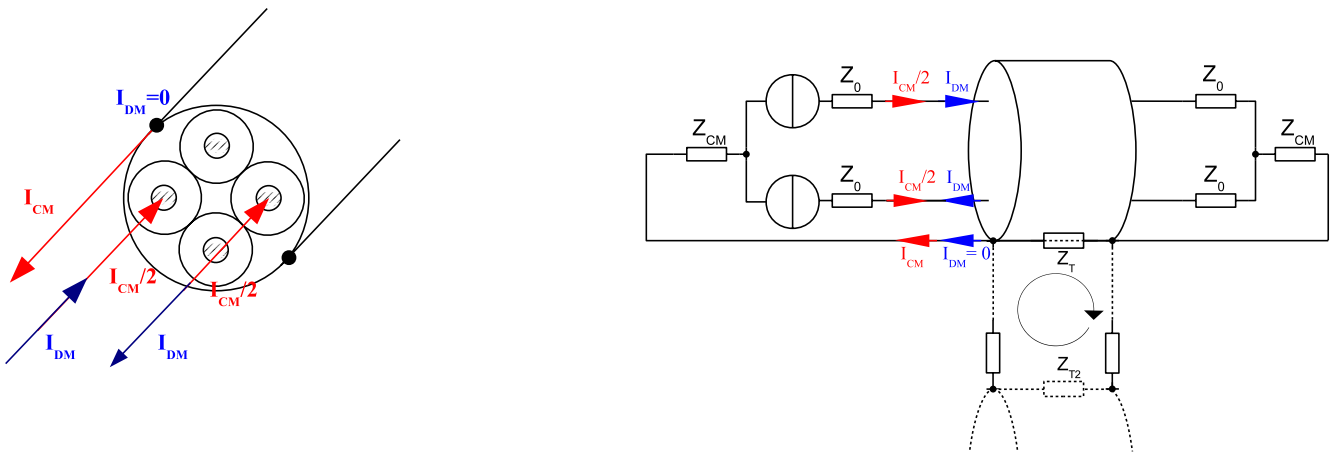

Figure 2: Current paths of Common mode (CM) and Differential mode (DM)
Figure 2 indicates the current direction when the conductor pair is in differential mode (blue) and common mode (red). It is possible to see in differential mode (DM) that one conductor is the feed conductor and the other is the return conductor, and that a return current does not flow on the shield. In common mode (CM), both conductors are more or less connected in parallel as feed conductors and the shield acts as the return conductor. Furthermore, the termination impedances Z_0 of 50Ω are shown at both ends of the conductors and the impedances for the CM termination Z_{CM} are indicated. In addition, the external coupling via the transfer impedance Z_T is indicated.